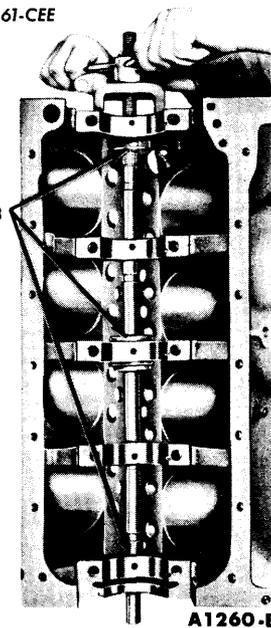
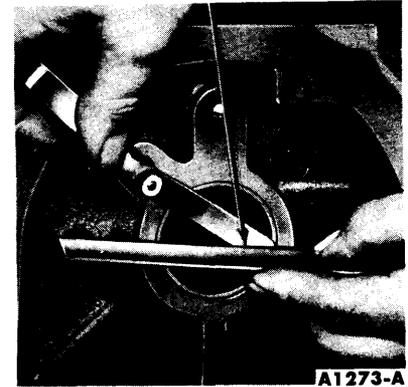

FIG. 81—Camshaft Bearing Replacement
FIG. 82—Camshaft Front Bearing Measurement
2. Remove the camshaft rear bearing bore plug. Remove the camshaft bearings (Fig. 81).
3. Position the new bearings at the bearing bores, and press them in place with the tool shown in Fig. 81.
Align the oil holes in the bearings with the oil holes in the cylinder block when the bearings are installed. Be sure the camshaft front bearing is installed 0.005-0.020 inch below the front face of the cylinder block (Fig. 82).
36. Remove the camshaft rear bearing bore plug. Remove the camshaft bearings (Fig. 81).
3. Position the new bearings at the bearing bores, and press them in place with the tool shown in Fig. 81. Align the oil holes in the cylinder block when the bearings are installed. **Be sure the camshaft front bearing is installed 0.005-0.020 inch below the front face of the cylinder block (Fig. 82).**